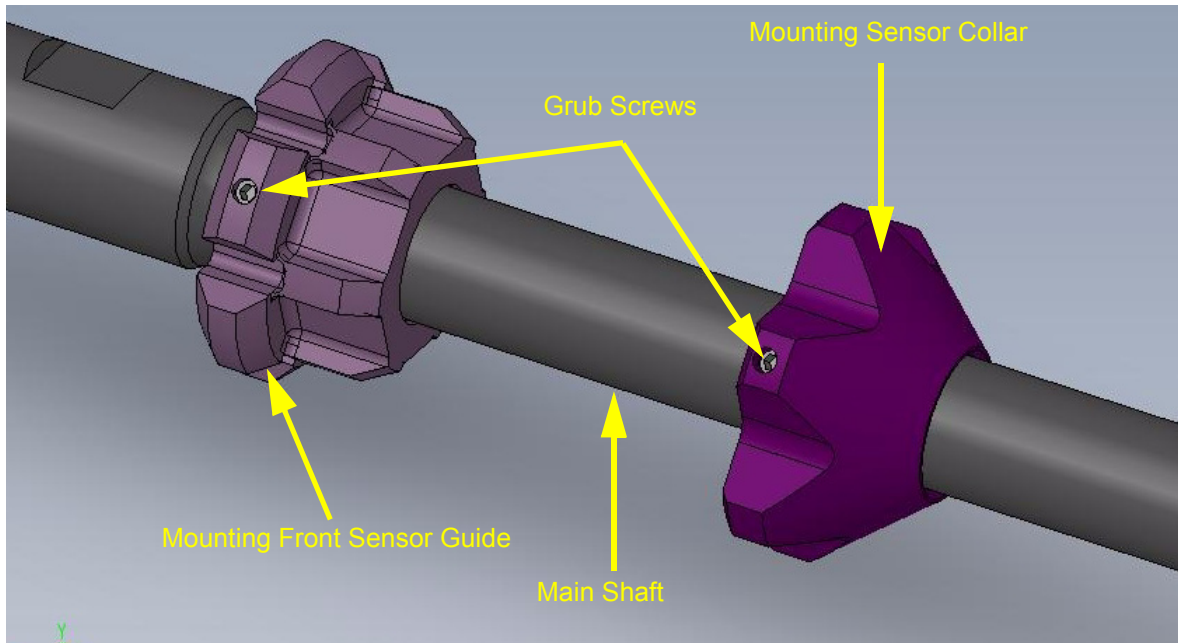

Figure 5.22 Fitting the Mounting Front Sensor Guide and Mounting Sensor Collar onto Main Shaft
1 Slide the Mounting Front Sensor Guide (item 11, 09822) and the Mounting Sensor Collar (item 12, 09822) onto the Main Shaft and make sure they are orientated correctly. See Figure 5.22.